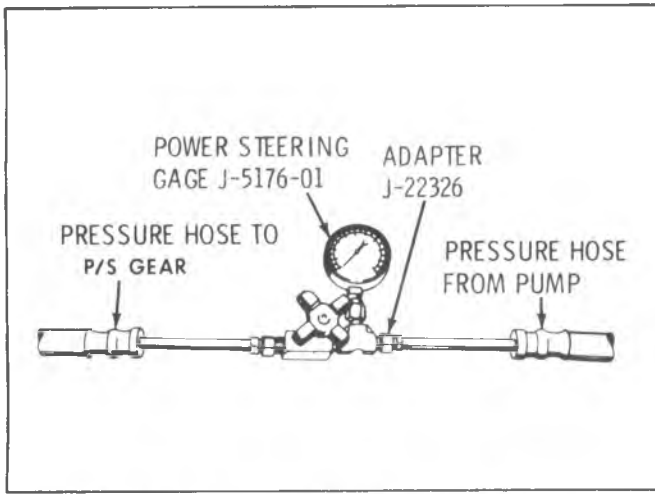

Fig. 3B3-7—Checking Power Steering Pressures
**Leakage Diagnosis (Fig. 3B3-8)**